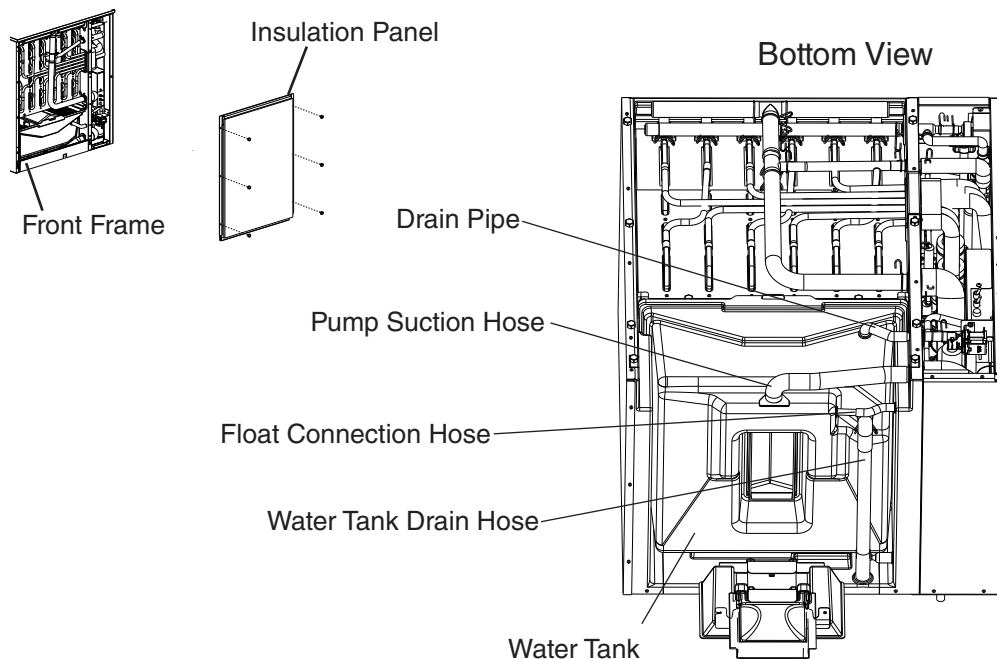

Fig. 22
- 13) Disconnect the drain pipe, float connection hose, pump suction hose, and water tank drain hose from the water tank. See Fig. 22. Allow the tank and hoses to drain completely.